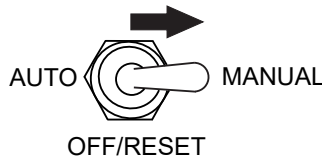

Figure 7. Auto Start/Stop Switch (Manual Position)
2. To start the engine, place the **Auto Start/Stop switch** in the **MANUAL** position (Figure 7).